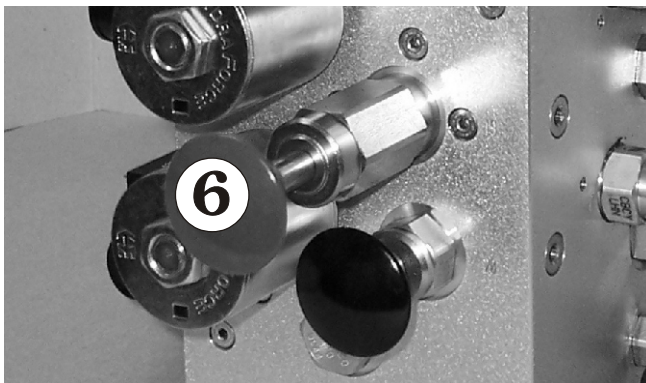

Figure 9.10
4. To release the brakes, pump the hand pump ⑥ 5 - 10 times. (see Figure 9.10). The brakes will now be released and the S3970RT / S3370RT / S2770RT is ready to be pushed or towed.